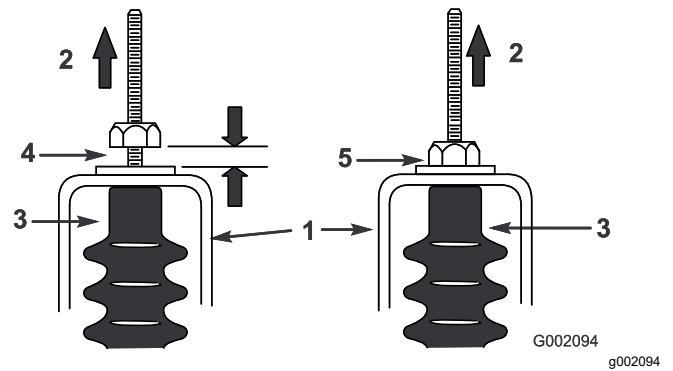

Figure 53
5. Pull up on each shift cable and ensure that there is a 0.76 to 1.52 mm (0.03 to 0.06 inch) between the nut/washer and the neutral bracket (Figure 53).